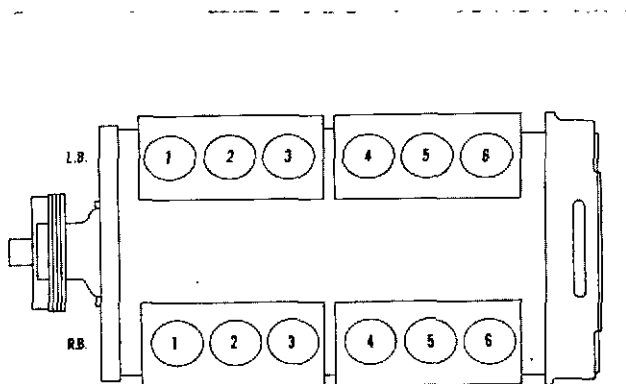

Fig. 2-49 (V414231) V-1710 firing order
6. For firing order see Table 2-10 for inline engines and Table 2-11 and Fig. 2-49 for V-1710 Series Engines.